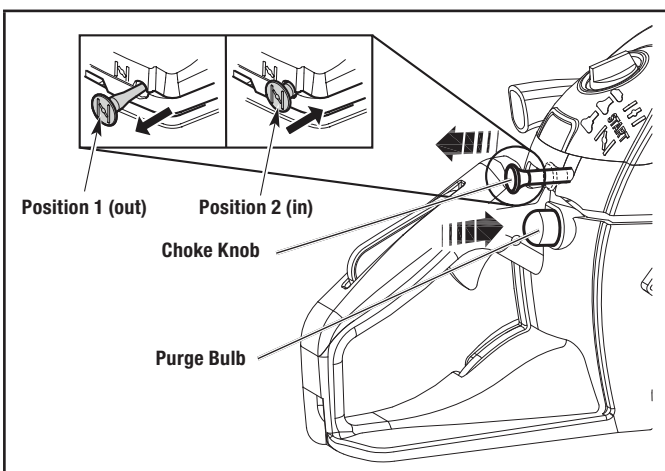

Figure 4
2. First time use, or after sitting unused for 3 or months, slowly push the PURGE bulb all the way in and release 20 times (Fig. 4). For starting after recent use, push the PURGE bulb 10 times. If fuel cannot be seen in the purge bulb, push and release the primer bulb until fuel is visible, and then push 5 more times to purge air and vapor bubbles out of the carburetor.
3. Pull the choke knob out to position 1 "CHOKE"  until it locks in place and you feel and hear the click. (Fig. 4).
5. DO NOT touch the throttle control. After the engine pops or putters, then push the choke knob in to position 2 "RUN" . In position 2, the choke is open, and the throttle is cracked open to the starting position. (Fig. 4).